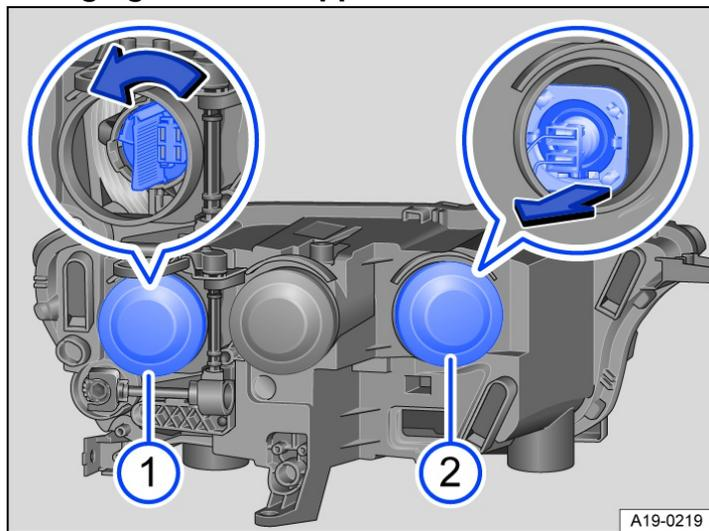

Fig. 1 In the engine compartment: rear view of the left-hand headlight.
1. Pull the rubber cover *→ Fig. 1* ① from the rear of the headlight.
5. Fit the rubber cover *→ Fig. 1* ① or hard plastic cover and turn it clockwise as far as it will go.
1. Pull the rubber cover *→ Fig. 1* ② from the rear of the headlight.